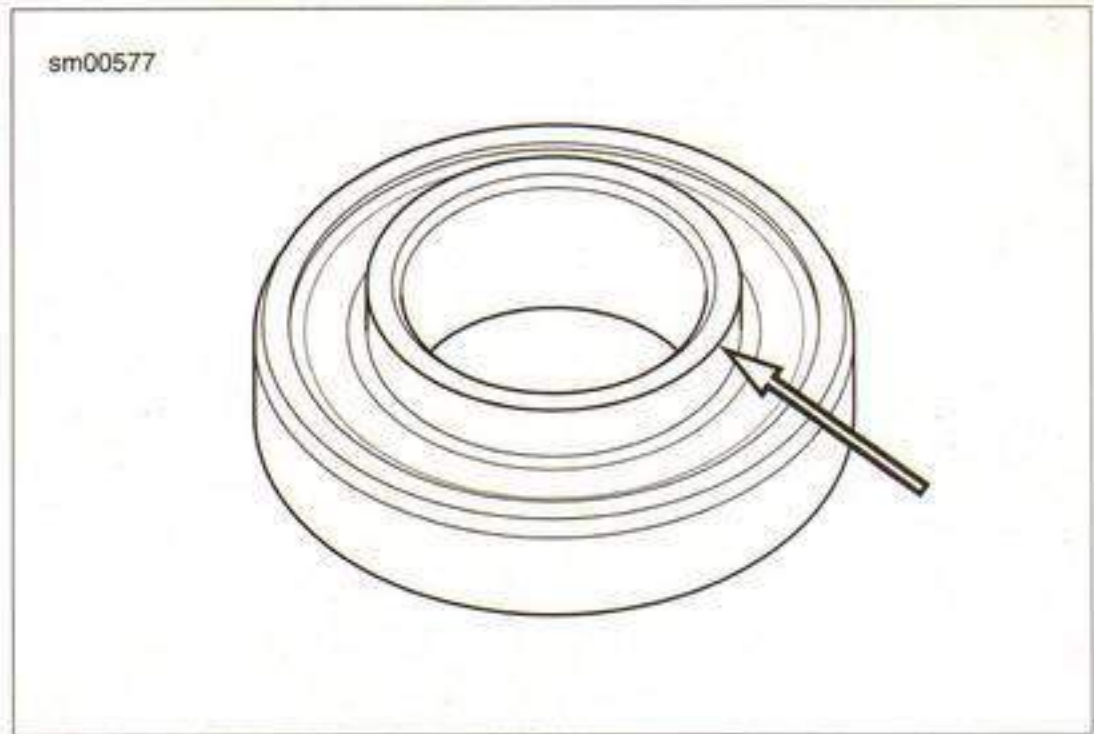

Figure 2-101. Steering Head Bearing Lip
- a. See Figure 2-101. Place the upper bearing squarely in the steering stem bore with the inner race lip pointing away from the steering head.